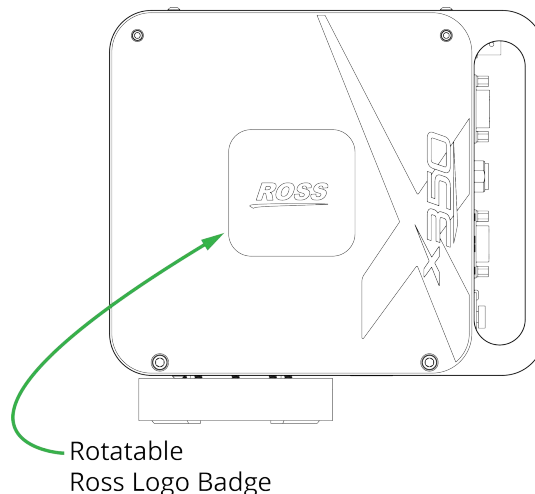

Figure 24 - X350 Head, showing Rotatable Ross Logo Badge
- a. Rotate the Ross logo badge on the side of the head (**Figure 24**).